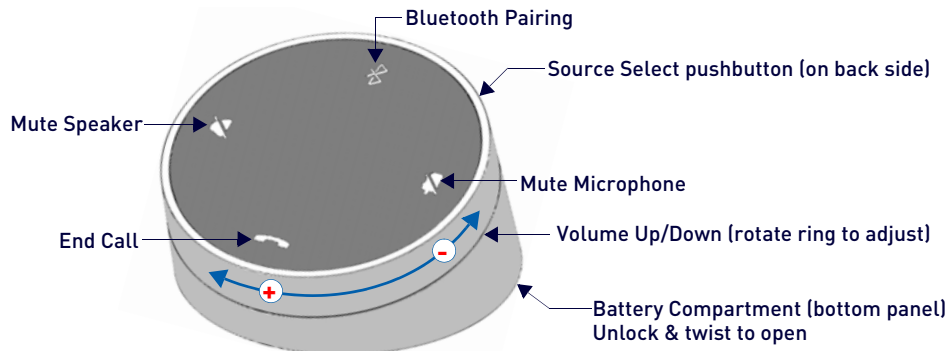

FIG. 16 Acendo Vibe Remote Control
The Acendo Vibe includes a wireless remote control (FIG. 16):
1. Press and hold both the **Source Select** and **Bluetooth Pairing** buttons on the *remote control* for 5 seconds (see FIG. 16). All LEDs on the remote control should start blinking or remain blinking (once per second).